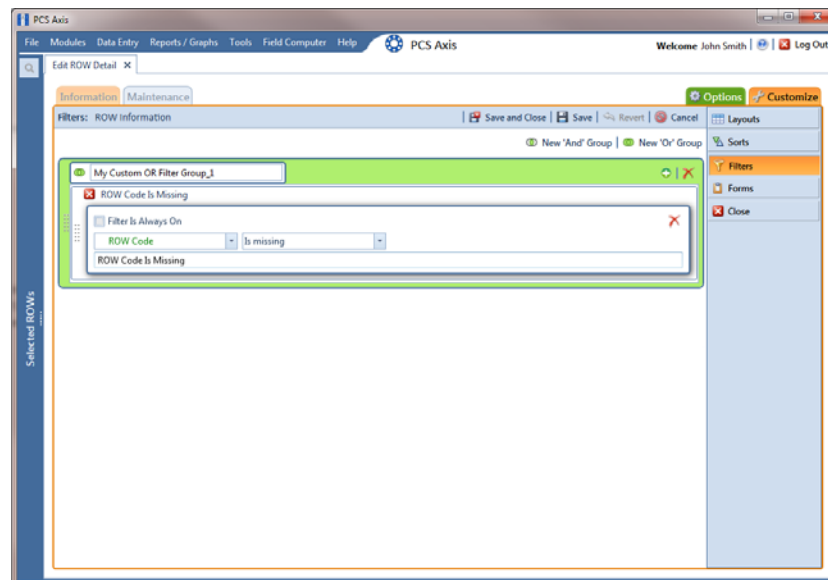

Figure 4-42. Filters
- 4 Click the **Customize** tab  then the **Filters** button  to open the *Filters* page (Figure 4-42).
- 6 Type a name for the filter group in the field **Include records that match any of these conditions** (Figure 4-42, page 168).